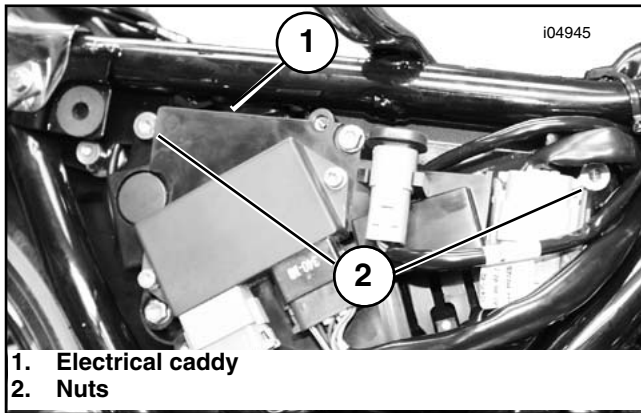

Figure 18. Install Electrical Caddy
13. See Figure 18. 2002 and later Models Only: Install electrical caddy on mounting studs, and secure using two nuts.